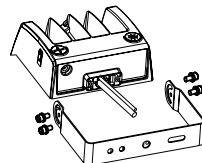

figure 4.2
Step 2:Tighten the brackets and screws.(figure 4.2)